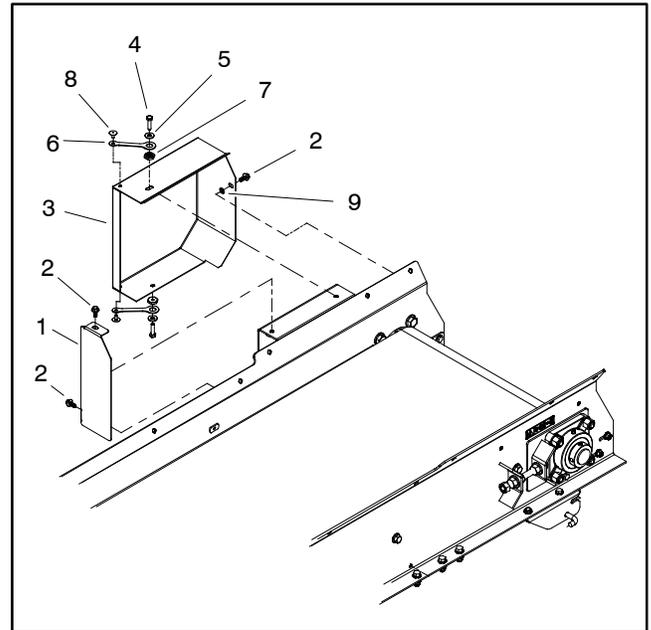

Figure 4
2. Remove guard cap and RH drive guard from frame to allow access to floor drive components (Fig. 4).
3. Loosen cap screw and lock nut that secure idler sprocket (item 5) to frame. Move idler sprocket to remove tension from drive chain.
4. Locate and remove master link (item 16) from drive chain. Note direction of master link clip for assembly purposes. Remove drive chain.
5. Loosen set screws (item 15) that secure sprocket to shaft of drive roller. Slide sprocket from shaft. Remove square key (item 13) from shaft.
5. Apply Loctite #242 (or equivalent) to threads of set screws (item 15). Tighten set screws to secure sprocket to drive roller shaft.
6. Move idler sprocket (item 5) to tension the drive chain. Secure idler sprocket by tightening cap screw and lock nut. A properly adjusted chain should allow for free rotation of drive components.
7. Secure RH drive guard and guard cap to frame (Fig. 4).